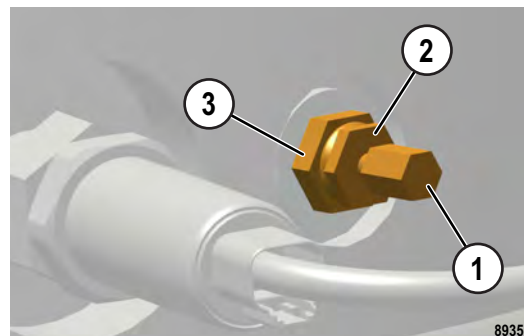

FIGURE 50-33. CHARGING VALVE
- a. Remove cap (1, Figure 50-33) from the charging valve.